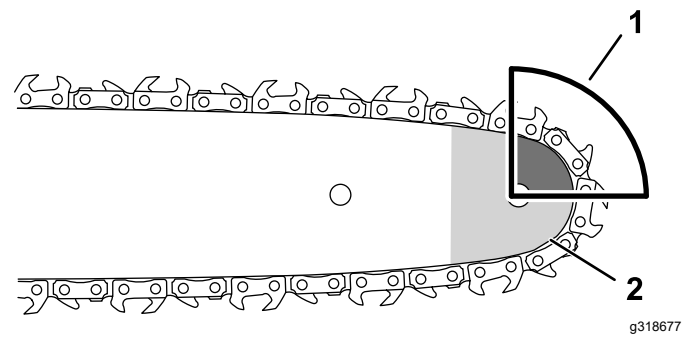

Figure 9
Figure 9 shows the area of the bar to avoid contacting an object to prevent kickback.
4. Clean the area around the oil cap (Figure 9).
5. Remove the oil-tank cap by rotating counterclockwise, and pour bar and chain oil into the pole saw until the oil reaches the MAX line on the oil tank (Figure 9).